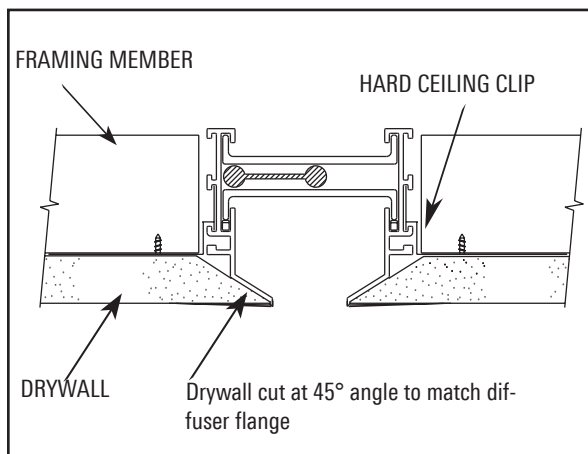

Figure 9. Drywall Preparation - Margin N Only)
- ☐ For Margin N only, before installing the sheetrock or wood ceiling, the leading edge must be trimmed at a 45° angle to match the Diffuser as shown in Figure 9.